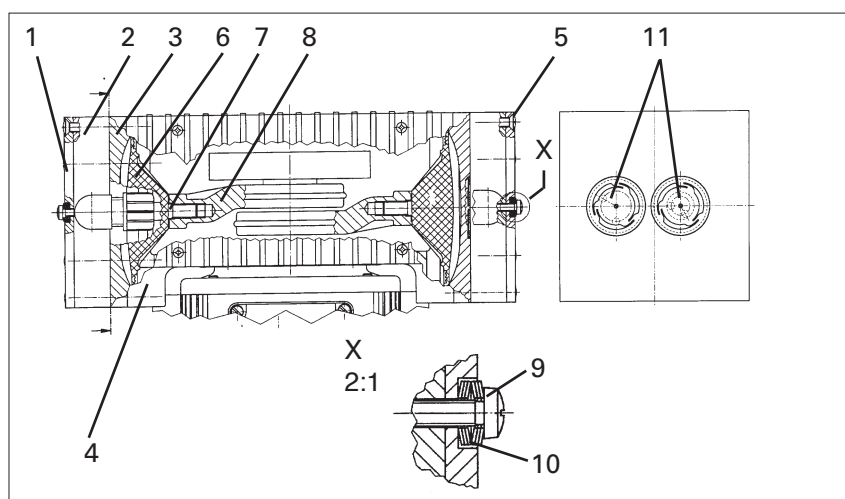

Fig. 4: Pump heads FTE types (symbolic)
- The position numbers in the following text refer to fig. 4.
- 2 Place the intermediate plate 3, with valve plates/sealings 11 on the housing, in the position indicated by the marking (M).
- 3 Place the head plate 2 on the intermediate plate 3 in the position indicated by the marking (M)
► The concave side of the first three disc springs must point away from the screw head, the next three towards it (see fig. 4,